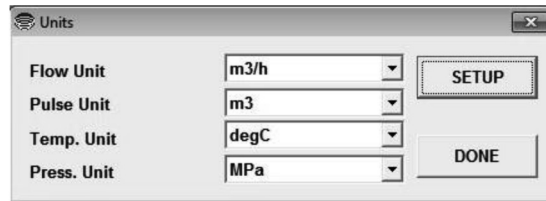

Fig.32
- ① Click on "Configure (M)" at top-level menu of the screen, select "Units (U)" and click on again.
- ② A message box for "Units" setup as shown in Fig. 32 appears.